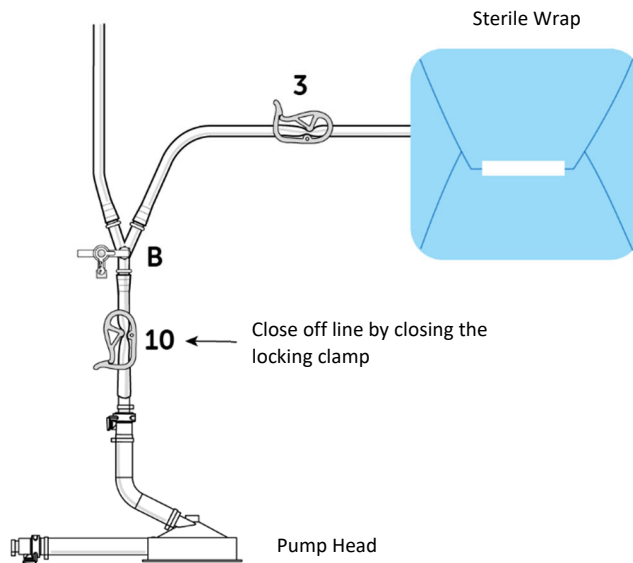

Figure 14
- (a) Close pre-pump clamp (10), open double balloon catheter line clamp (3), open saline line (clamp 1 or 2), and stopcock “B” to allow heparinized normal saline to prime line only up to clamp 3, see Figure 14. Once the stopcock line is primed and the double balloon catheter line is primed up to clamp 3, close clamp 3 and stopcock. **Do not allow excess heparinized normal saline to fill sterile wrap.**